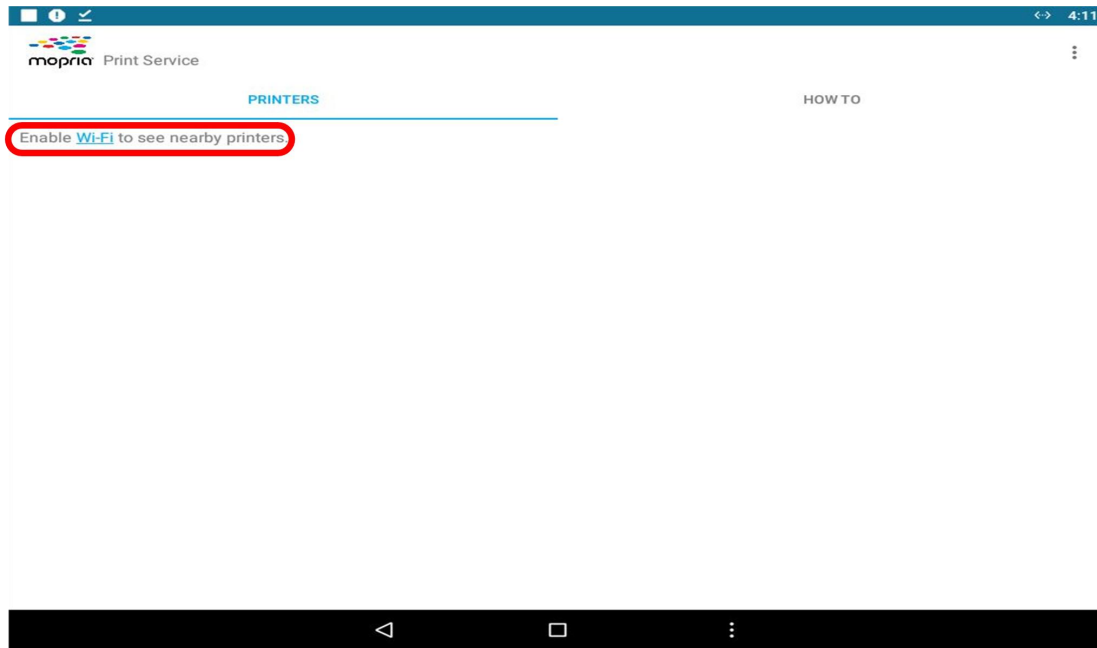

Figure 8
4、 After entering the printing software interface, click **"Enable Wi-Fi to see nearby printers"** to connect the printer's Wi-Fi, as shown in Figure 8. The Wi-Fi connection is successful, as shown in Figure 9.